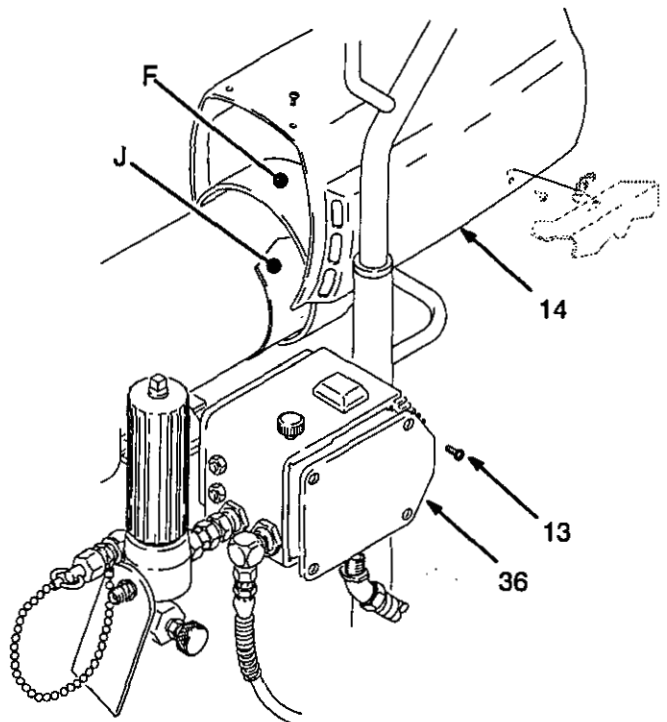

Fig. 12
Remove the pressure control cover and screws, the motor cover, the fan cover (F), and the inspection covers (J). See Fig. 12.